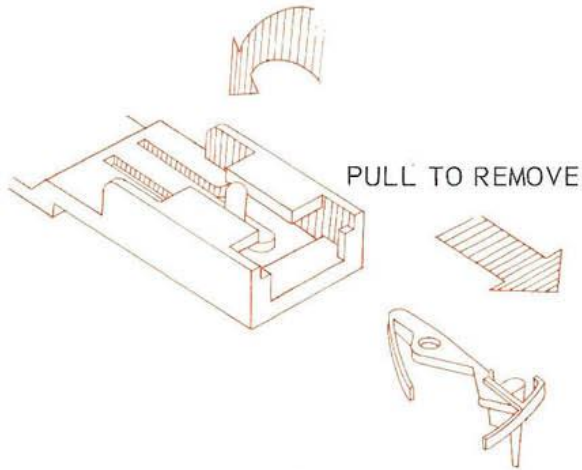

FIGURE 1
a. Grasp coupler with thumb and forefinger, twist to clear pin, and pull to remove (see figure 1).